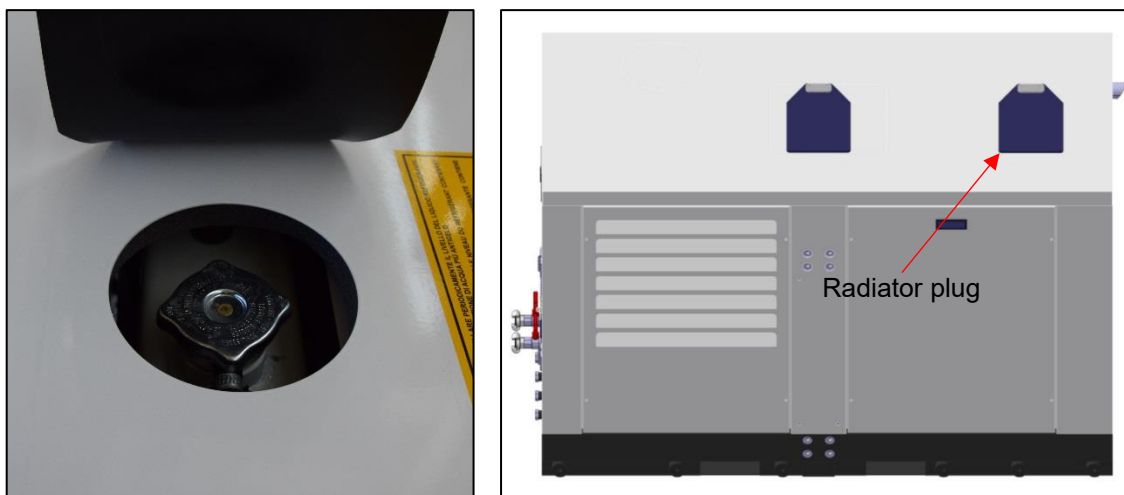

Figure 10.1.3 Checking the radiator cooling liquid
- 6) The air compressor is equipped with a liquid-cooling diesel engine; check the level of the coolant contained in the radiator (Figure 10.1.3).
WARNING: The radiator cap (Figure 10.1.3) must never be removed when the engine is hot; this would cause a sudden outflow of liquid which might result in severe scalding. Topping off, if required, must be done with a mixture of water and anti-freeze in the percentage indicated on the container.